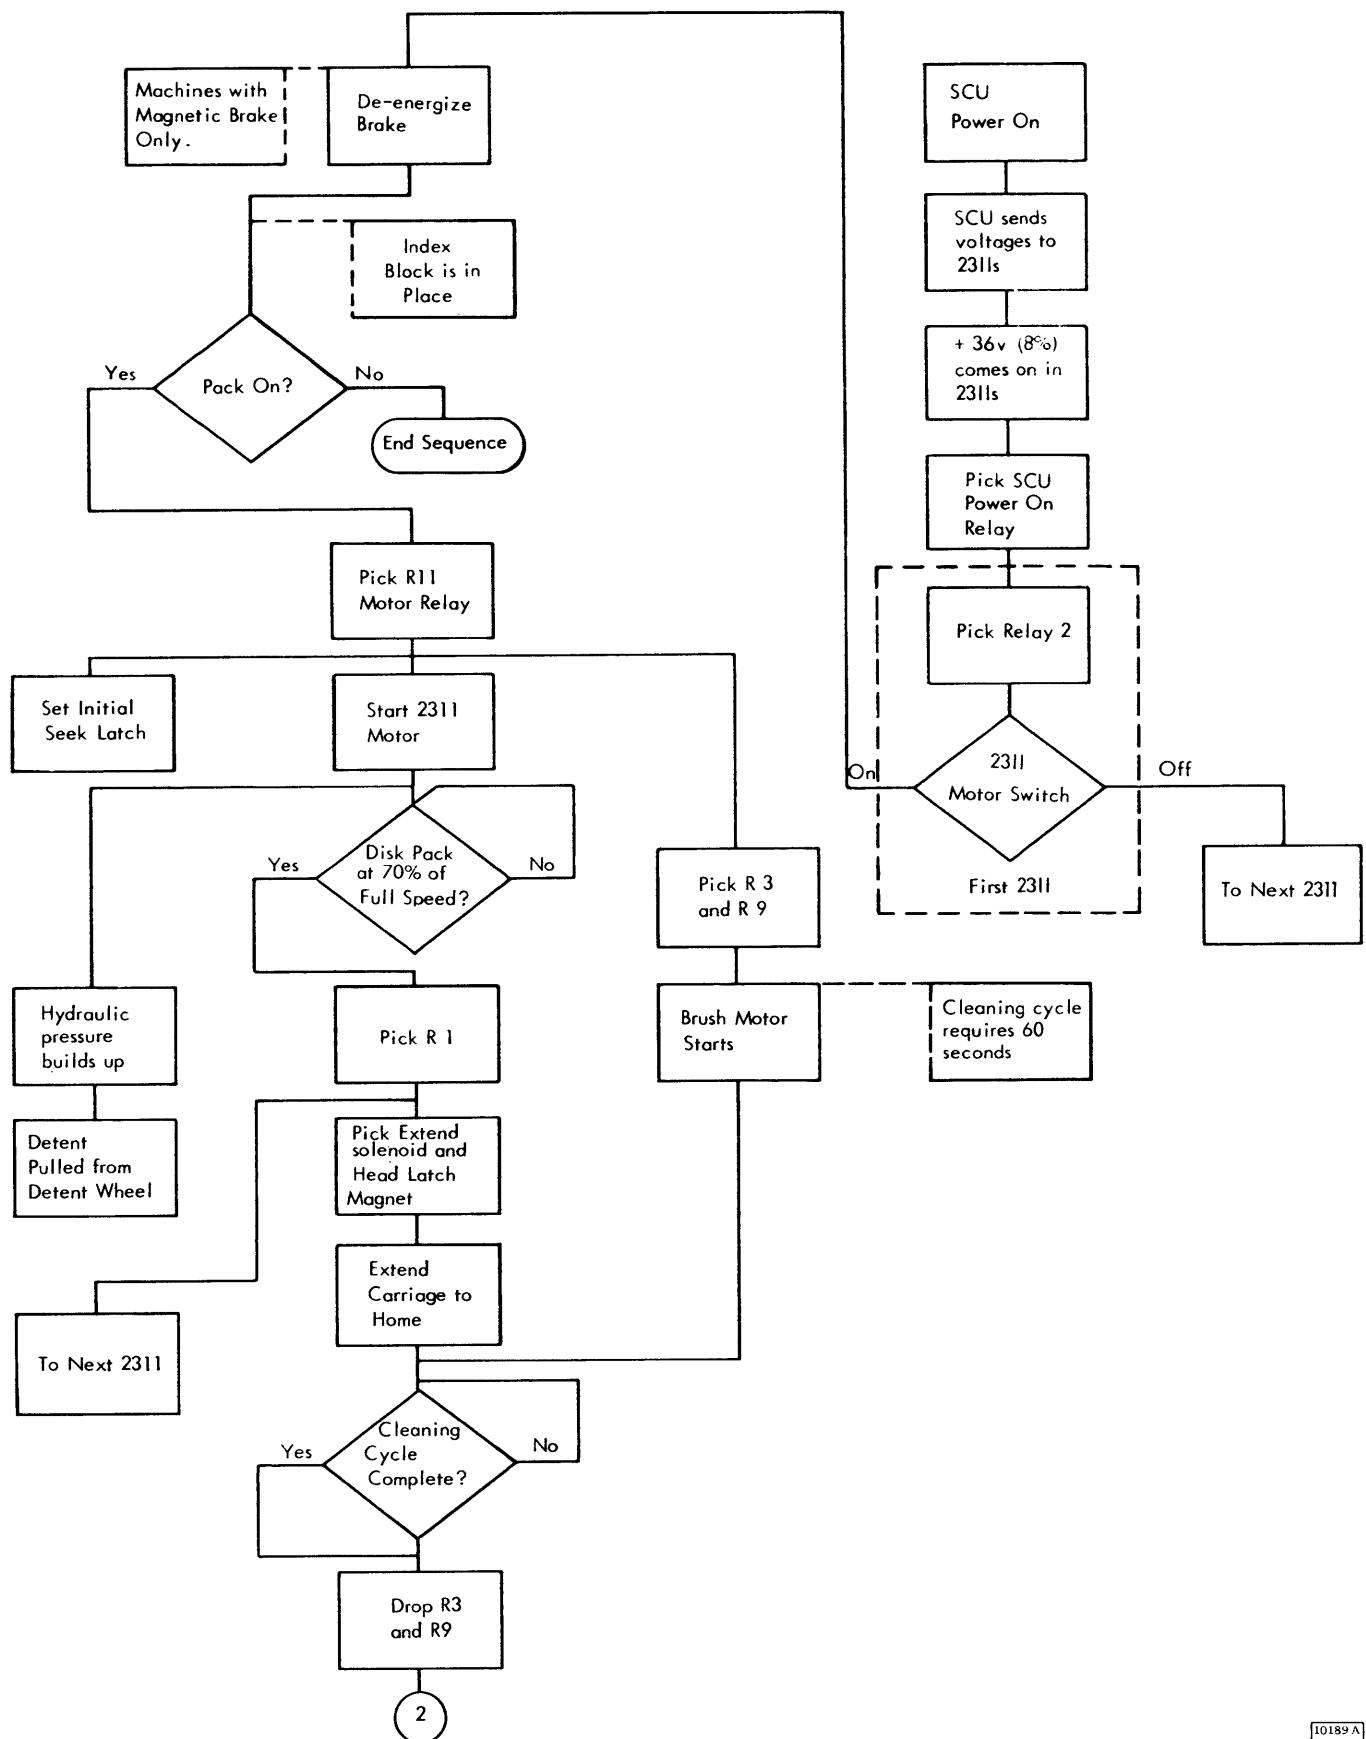

Figure 3-3a. Power On Flow Chart
- Disk pack installed, system and 2311 power on (Figures 3-3a, 3-3b).
When power is turned on in the SCU, all voltages used in the disk drive module, except the +36 Vdc 8% supply, are developed in the SCU and sent to the modules. When the SCU dc voltages are available, the +36 Vdc voltage comes up in all files attached to the SCU. With 36 Vdc up in all files, a power on relay is energized in the SCU. As a result of the power on relay coming up in the SCU, R2 is picked in the first file (Figure 3-3a).